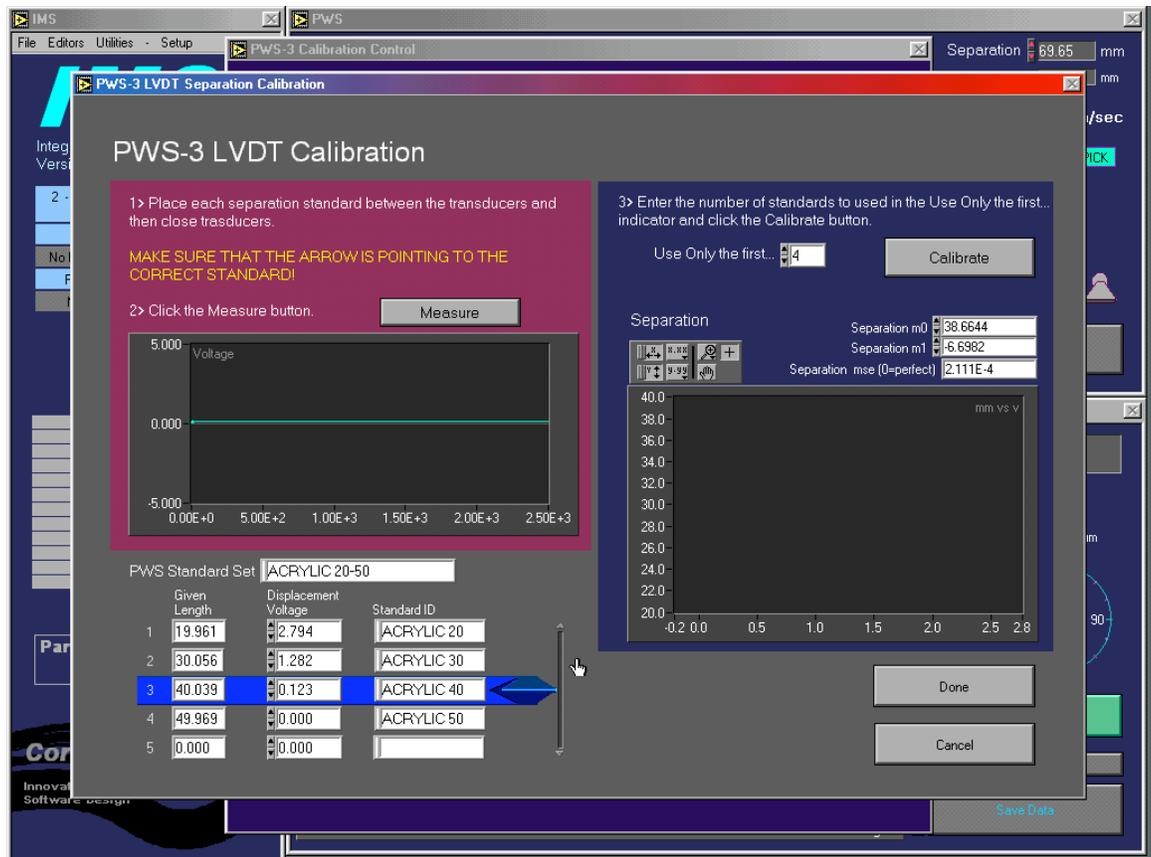

Figure 11. LVDT Separation Calibration.
2. Click on LVDT SEPARATION CALIBRATION. This will bring up the LVDT calibration screen (**Figure 11**).